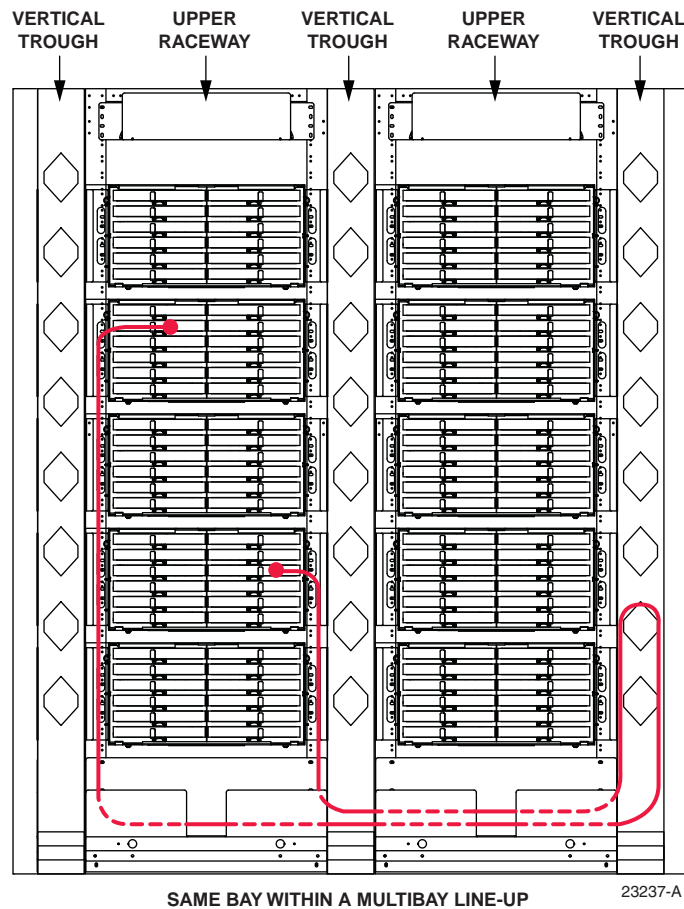
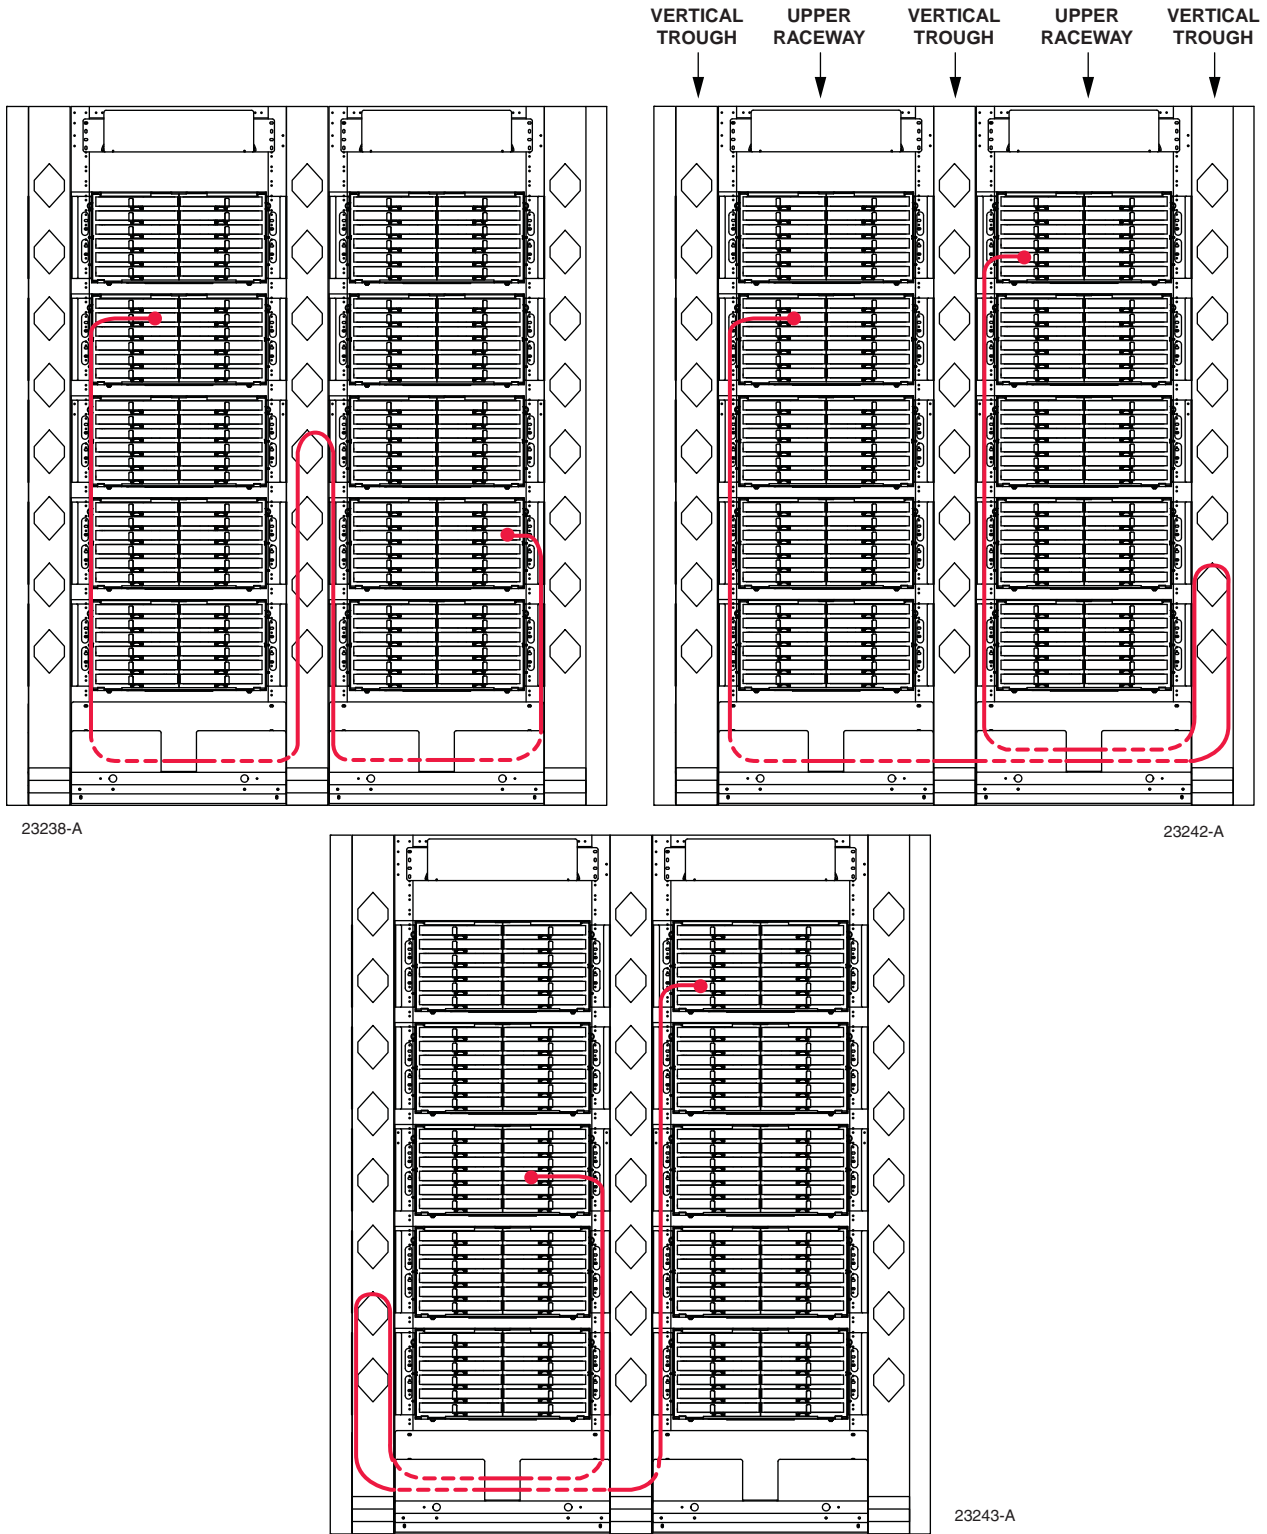

Figure 16. Routing Patch Cords Between Adjacent Bays
Figure 17. Alternate Paths for Patch Cords Between Adjacent Bays
4. Based on the termination and ending points for the patch cord, select from the routing paths shown in Figure 16 on this page or Figure 17 on the next page.